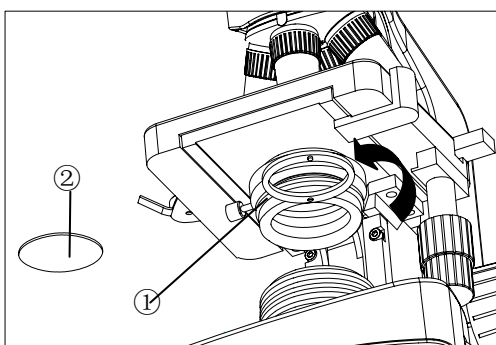

Fig.7
**2.2.4 Installing the color filters (Fig.7)**
1. Turn the condenser bracket① out at the direction of arrow in Fig.7
2. Put the required filters② into the holder on the bracket, and then turn the bracket back to the right position.